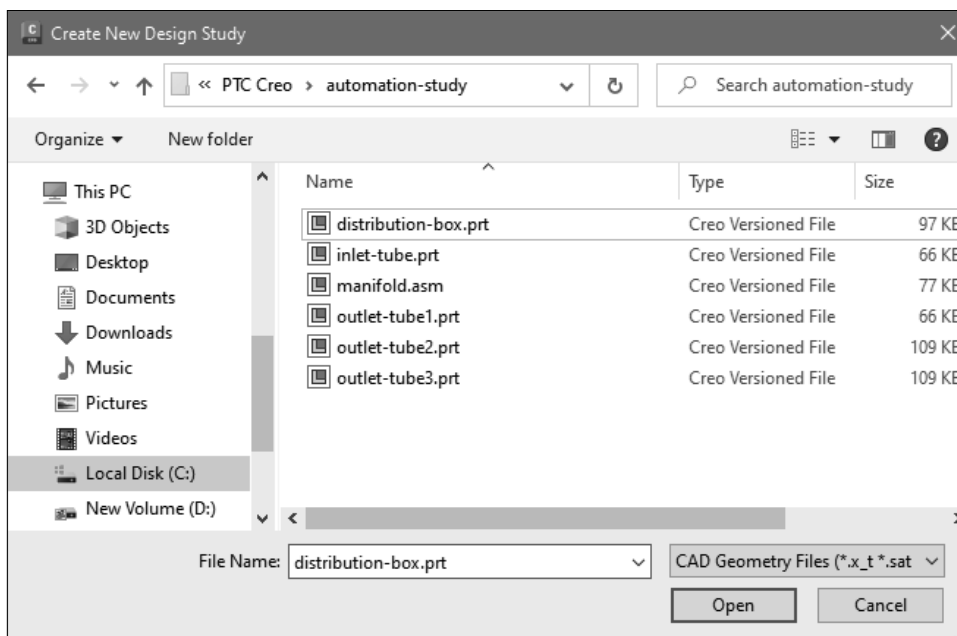

Figure-10. Create New Design Study dialog box
- Click on the **Browse** button from **New Design Study** dialog box. The **Create New Design Study** dialog box will be displayed; refer to Figure-10.